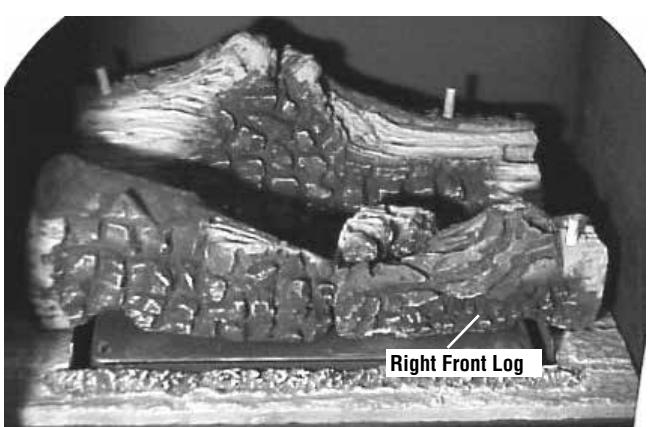

Figure 21
5. Install the right front log onto the corresponding burner pin and sub-floor right tab as shown in **Figure 21**.